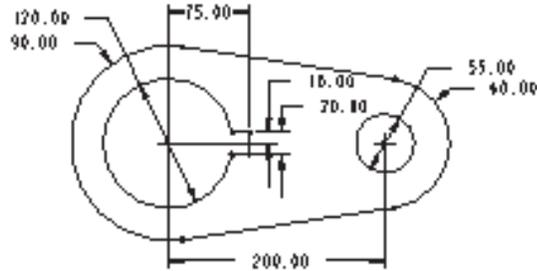

Figure 2-26 Sketch after regeneration
1. Choose the **Regenerate** option from the **SKETCHER** menu in the **Menu Manager** to regenerate the sketch. The sketch after regeneration is shown in Figure 2-26.